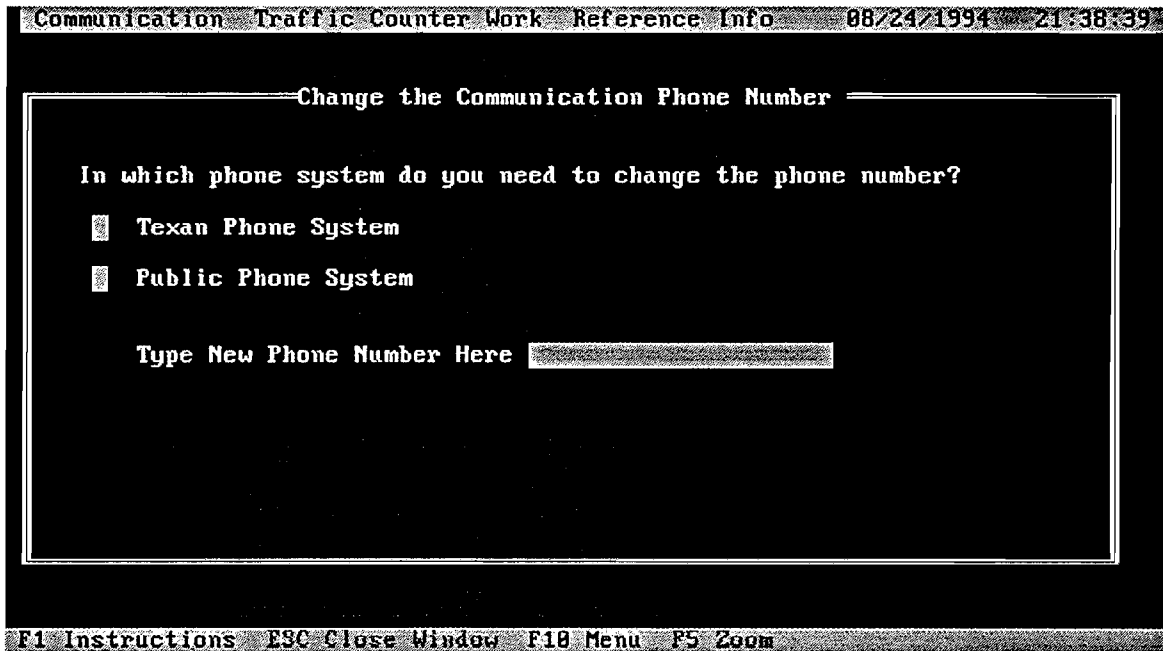

Figure 7.5: Changing the host computer telephone number
To change the host computer telephone number, the operator must input the correct user ID and password for the computer he/she is assigned to use. After the operator logs in, he/she can choose a phone system to change the phone number. The two-step procedure involves (1) moving the cursor to the choice and hitting the return key, and (2) typing in the phone number and then hitting the ENTER key (see Fig 7.5).